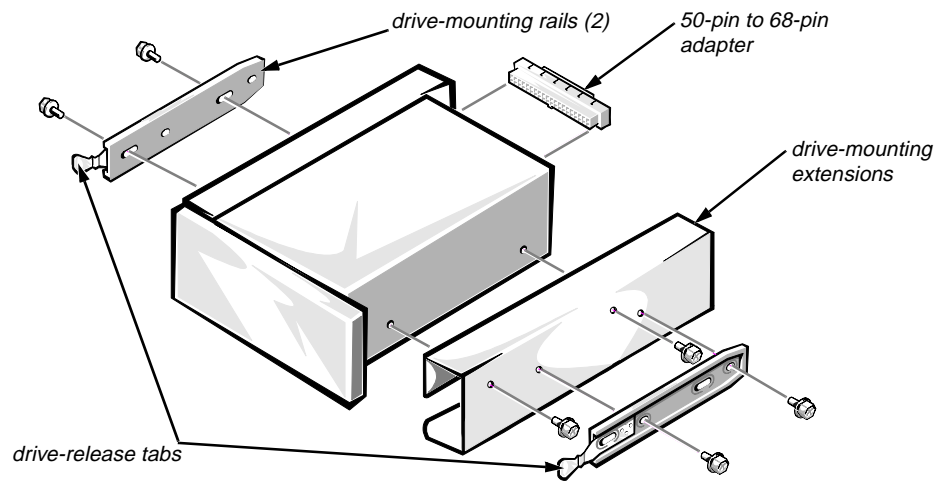

Figure 4-9. Drive-Mounting Rails and Extensions Removal
- 3. Remove the drive-mounting rails and drive-mounting extensions (if present) from the drive (see Figure 4-9).**